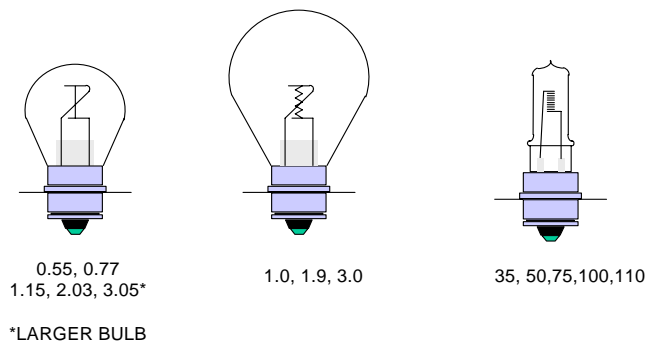

Figure 4-6
- f. Lamps for minor aids to navigation (Figure 4-6) are divided into two categories: tungsten using C-8 and CC-8 filaments, and tungsten-halogen. Tungsten filament lamps are rated by **amperage** and tungsten-halogen lamps are rated by **wattage**. The available lamp sizes are 0.55a, 0.77a, 1.0a, 1.15a, 1.9a, 2.03a, 3.0a, 3.05a, 35w, 50w, 75w, 100w and 110w. The 1.0, 1.9 and 3.0 amp lamps contain coiled-coil (CC-8) filaments and are not suitable for use in drum lenses (155mm, 250mm and 300mm). Lamps are available from ELC Baltimore.